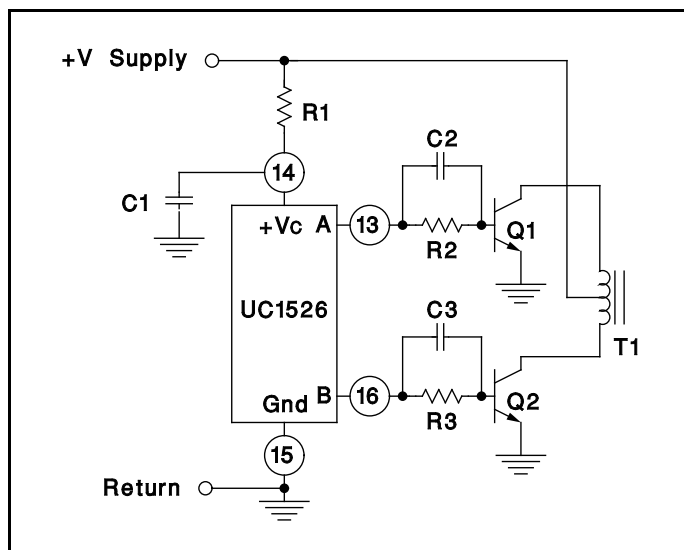

Figure 7. Push-Pull Configuration
1. With  $R_D = 0$  (pin 11 shorted to ground) select values for  $R_T$  and  $C_T$  from Figure 7 to give the desired oscillator period. Remember that the frequency at each driver output is half the oscillator frequency, and the frequency at the +Vc terminal is the same as the oscillator frequency.